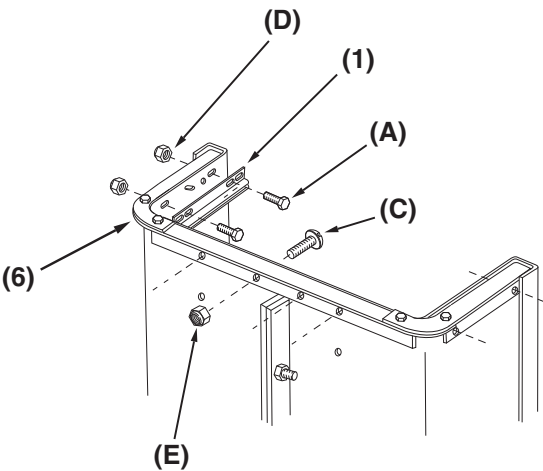

Figure 2
**STEP 2 (SEE FIGURE 2):** Attach the tailgate reinforcement bracket (6) to the assembled cart body using four 5/16" x 3/4" truss head bolts (C) and 5/16" nylock nuts (E). Attach the tailgate guides using two 1/4" x 5/8" hex bolts (A) and 1/4" nylock nuts (D) on each side.